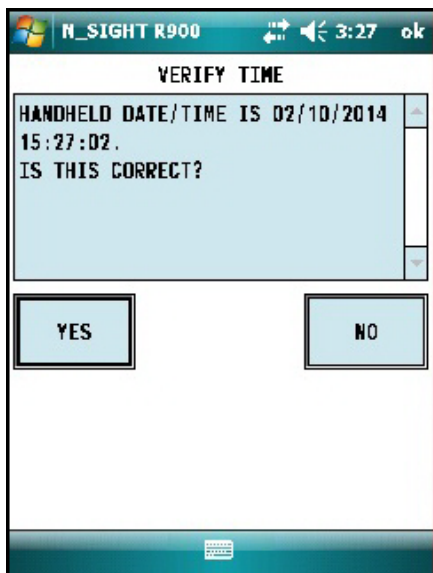

Figure 50 HHU Time Confirmation
- 1 Verify the time is correct, and click **YES**. See Figure 50.